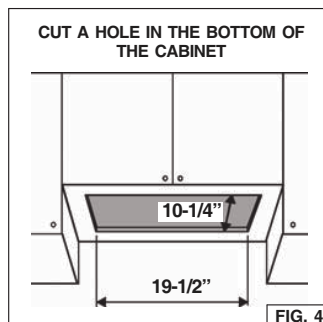

FIG. 4
3. Cut a hole in the bottom of the cabinet, using the dimensions shown (Fig. 4).